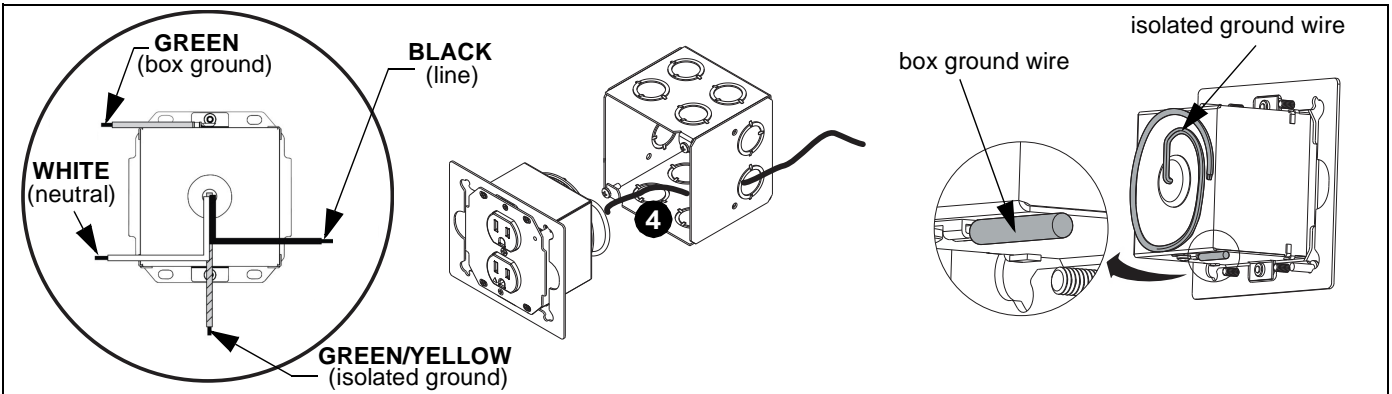

Figure 3
- 4. Wire the EGX-SF2 outlet box as required. Refer to tables to the right for input and output specifications. (See Figure 3)
7. Connect wires to EGX-SF2 referring to tables on page 3 for input and output specifications. (See Figure 3)